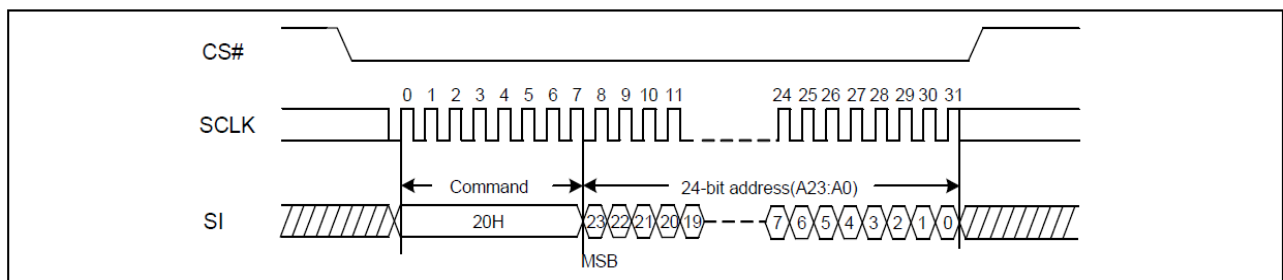

Figure16. Sector Erase Sequence Diagram
The Sector Erase command sequence: CS# goes low→sending Sector Erase command→3-byte address on SI→CS# goes high. The command sequence is shown in Figure16. CS# must be driven high after the eighth bit of the last address byte has been latched in; otherwise the Sector Erase (SE) command is not executed. As soon as CS# is driven high, the self-timed Sector Erase cycle (whose duration is t_{SE}) is initiated. While the Sector Erase cycle is in progress, the Status Register may be read to check the value of the Write In Progress (WIP) bit. The Write In Progress (WIP) bit is 1 during the self-timed Sector Erase cycle, and is 0 when it is completed. At some unspecified time before the cycle is completed, the Write Enable Latch (WEL) bit is reset. A Sector Erase(SE) command applied to a sector which is protected by the Block Protect(BP4, BP3,BP2, BP1, and BP0) bit (see Table1 &1.1) will not be executed. Note: Power disruption during erase operation will cause incomplete erase, thus recommend to perform a re-erase once power resume.